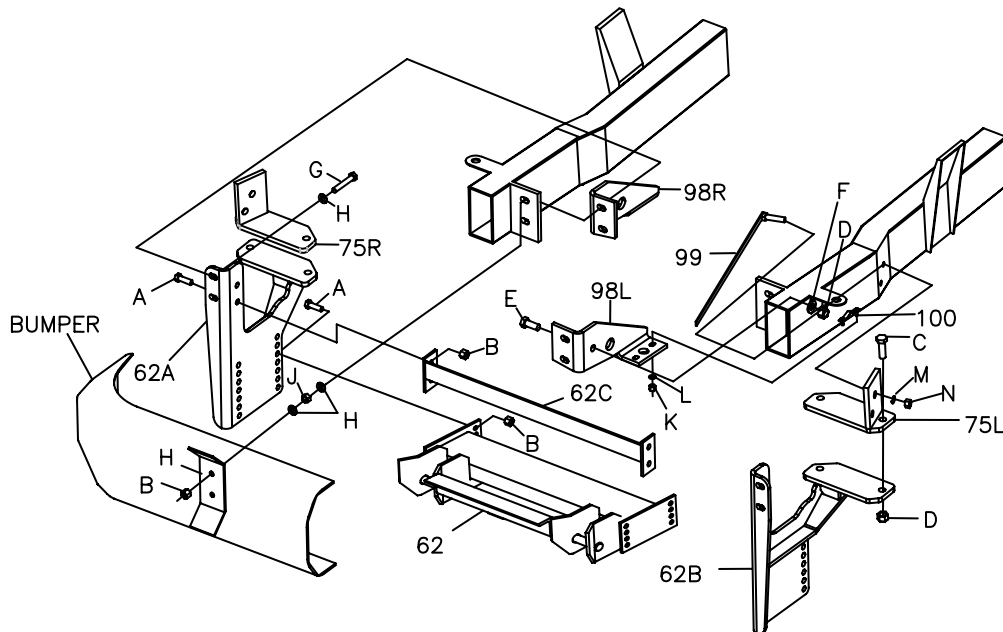

Figure 1
1. Remove the Front Bumper. Remove the Bumper mounting bolts. Insert the BOLT BAR (Ref. 100, Fig. 1) inside the frame rail. Using the 3/8" BOLT PULLERS, pull bolt through frame and install the FRAME GUSSET (Ref. 98R and 98L, Fig. 1). Fasteners should only be finger tight.
2. Position the ANGLE BRACKET (Ref. 62A and 62B, Fig. 1) behind the FRAME GUSSET, and secure with 1/2" – 13 x 3" FULL THREAD BOLT, 1/2" HARDENED WASHERS, and 1/2" – 13 NUT. Insert the bolt from the rear, with the nut in the front. Tighten Nuts finger tight.
3. Position the FRAME MOUNTS (Ref. 75R and 75L, Fig. 1) on the ANGLE BRACKET, and fasten with the 5/8" – 11 x 2" HEX HEAD BOLT and 5/8" – 11 SELF LOCKING NUTS provided. Tighten Nuts finger tight.
4. Raise the FRAME MOUNTS up tight against the frame. Mark and drill the top hole of the FRAME MOUNTS. Fasten the FRAME MOUNTS to the Frame using 5/8"-11 NUTS, 5/8" SPLIT LOCK WASHERS, and BOLT PULLERS.(Ref. 99, Fig. 1)
5. Attach the CROSS MEMBER WELDMENT (Ref. 62C, Fig. 1) to the ANGLE BRACKET (Ref. 62A and 62B, Fig. 1) using 1/2" – 13 x 1- 1/2" HEX HEAD BOLTS and 1/2" – 13 SELF LOCKING NUTS.
6. Attach the PUSHBEAM (Ref. 62, Fig. 1) to the ANGLE BRACKETS (Ref. 62B and 62C, Fig. 1) using 1/2" – 13 x 1- 1/2" HEX HEAD BOLTS and 1/2" – 13 SELF LOCKING NUTS provided.
7. Adjust the spacing of the bumper mounting bolts (Ref. G, Fig. 1) to match the spacing on the bumper then torque the bolts as specified in Figure 3. Install the Bumper and secure with ½" – 13 SELF LOCKING NUTS and ½" HARDENED WASHERS provided. Tighten the ½" – 13 SELF LOCKING NUTS as specified in Figure 3.
9. Verify that there is adequate clearance between the LEFT ANGLE BRACKET (Ref. 62B, Fig.1) and the pitman arm of the steering linkage.